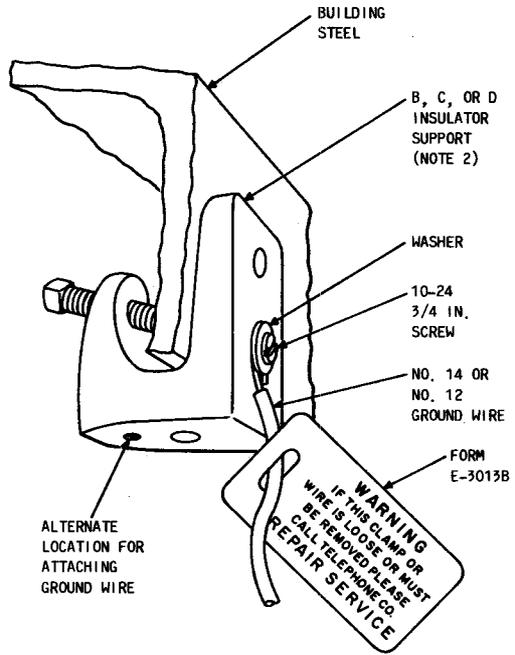

Fig. 46—Grounding to Building Steel
**6.10** See Table E for ground clamp selection. See Table F and Fig. 18, 42, 43, 44, and 45 for wire connectors. Connections to building steel may be made by using a C or D insulator support (see Fig. 46).